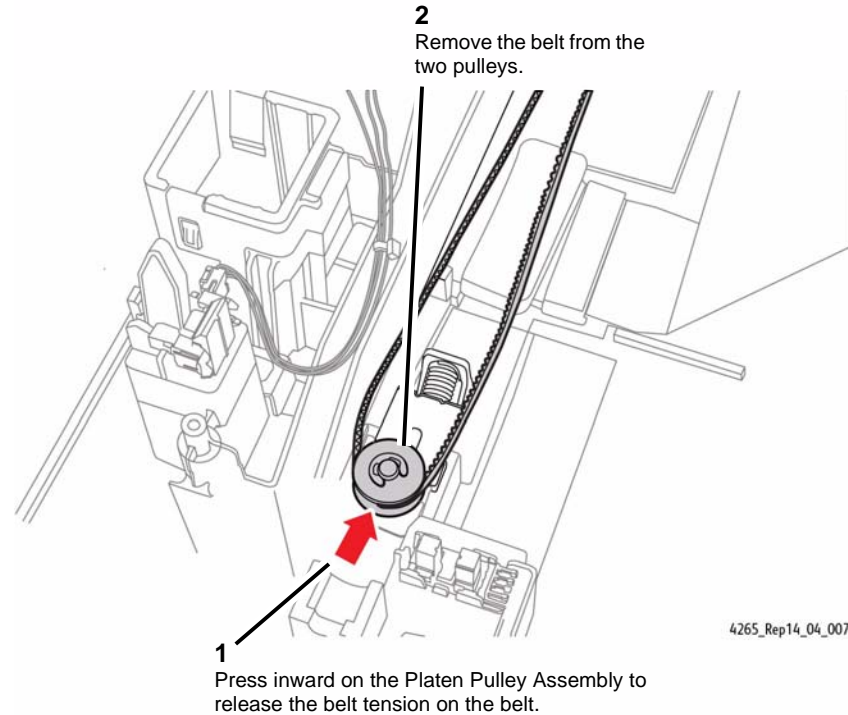

Figure 1 Removing the Long Timing Belt
2. Remove the long timing belt from the Platen Pulley (Figure 1).